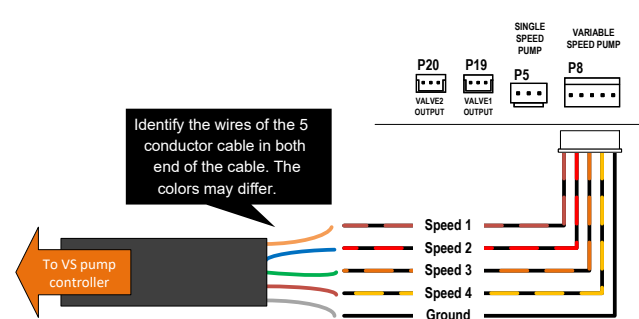

Figure 142. 5-Conductor Cable Wiring
2. Inside the heater's control box, use the harness adapter labeled "Pump speed selector" that comes with the accessories bag to connect the 5-conductor cable to the control board terminal labeled "VAR PUMP" [P8]. The adapter can supply 4 digital outputs at 30VDC and a ground signal. Make sure to identify the wires in both ends of the 5-conductor cable. Refer to Figure 142 for guidance.